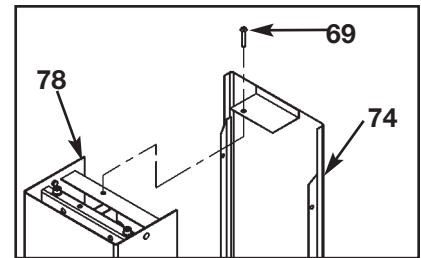

Figure 3
3. Unpack the carton containing the column (see steps 3A - 3F and Figures 3 - 7).
- C. For Free Standing units containing a back cover, remove the BHSCS .375-16 x 2.00 (#69) securing the back cover (#74). Remove back cover by sliding it then lifting it upward. See Figure 3.